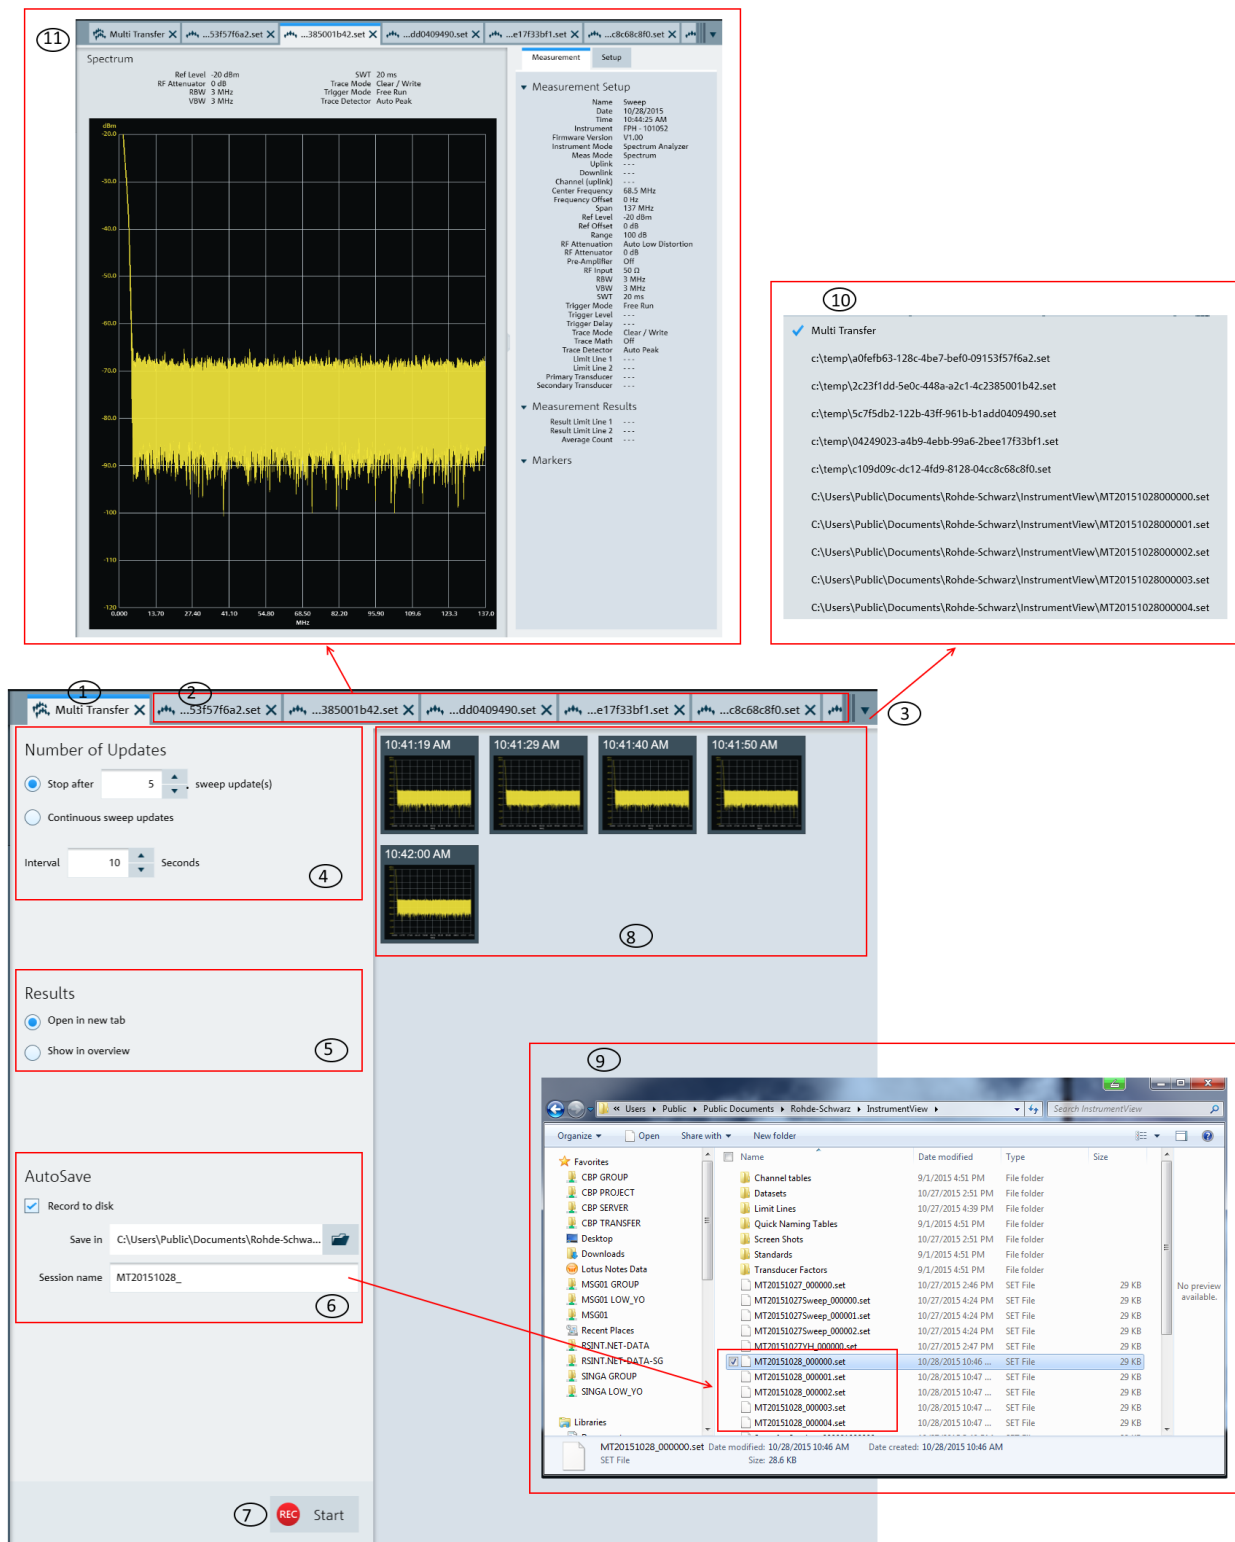

Figure 4-11: Multi transfer dialog
"View" 	View the details of the trace measurement file. Only file format with *.set and *.png can be viewed. See index 11 of Figure 4-11 .
The "Multi Transfer" menu allows you to capture and save trace measurements from the instrument. See Figure 4-11.
- 2 = Measurement results tab (See index 11 in Figure 4-11)
- Display the trace measurement in the overview area. See index 8 in Figure 4-11.
- Display the individual trace measurement result in the "Tab header bar". See index 2 in Figure 4-11.
See index 11 in Figure 4-11.
See index 9 in Figure 4-11 to view the trace measurements captured in the file directory.
Depending on the setting in the "Results" section (see index 5 in Figure 4-11), the trace measurement updates can be displayed in the overview area (see index 8 in Figure 4-11) or individually displayed as a new tab in the tab header bar (see index 2 in Figure 4-11).